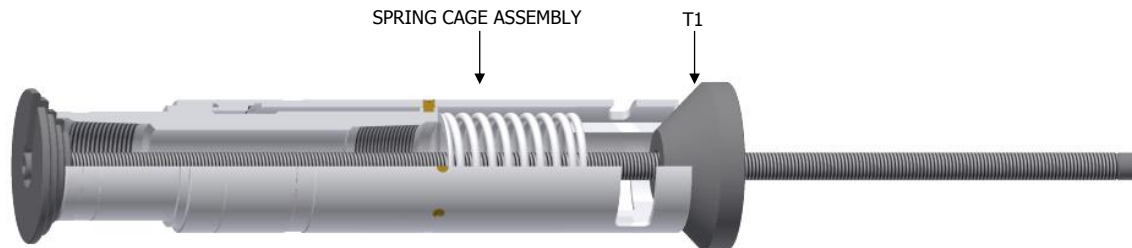

Fig. 2
K-1.17.1) Position spring cage assembly tool (T1) hand-tight against top sub (1) and spring cage (5) of spring cage assembly (Fig. 2).
**CAUTION4:** Compression spring (4) is compressed with tension against spring cage assembly.